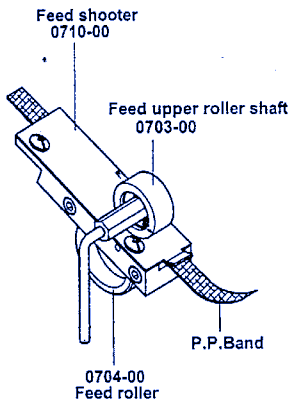
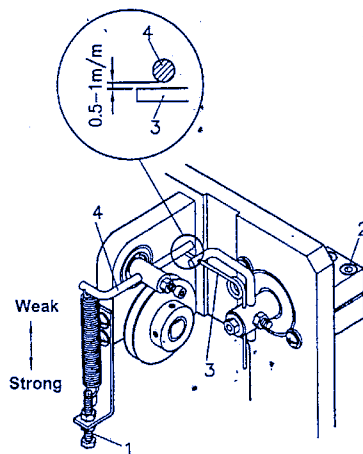

FIG.10-1 SHOOTER
FIG.10-2 PRESS ARM SHAFT
1. Insert strap between Feed Roller (FIG.10-1.0704-00) and Upper Feed Roller (FIG.10-2.0703-00) on the Feed Shooter (FIG.10-1.0710-00).